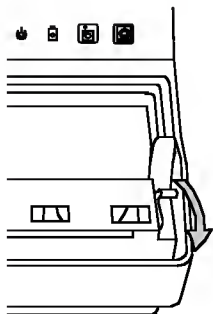

Figure 41
3. Pull the paper lever forward. See **Figure 41**.